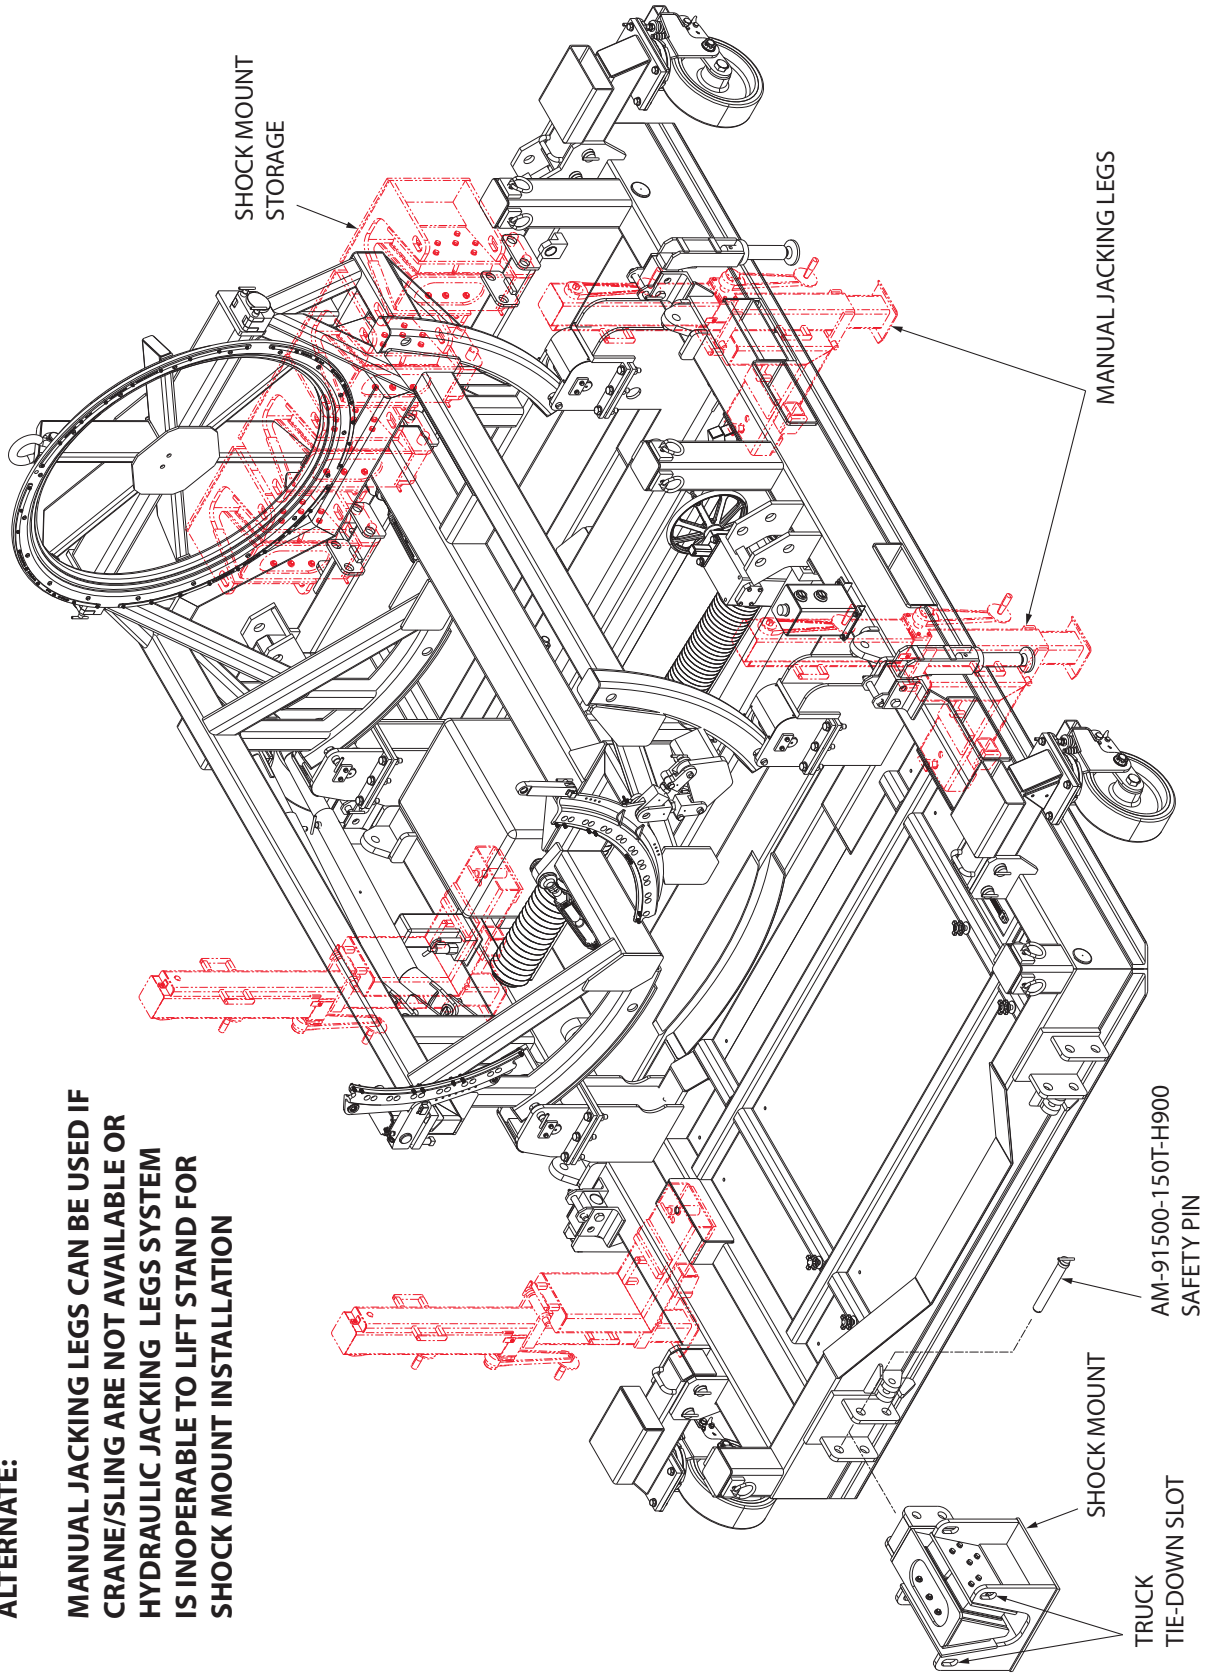

Figure 5.10-1 Shock Mount Installation
3. Install the shock mounts on stand base and secure with the safety pins. (Figure 5.10-1).